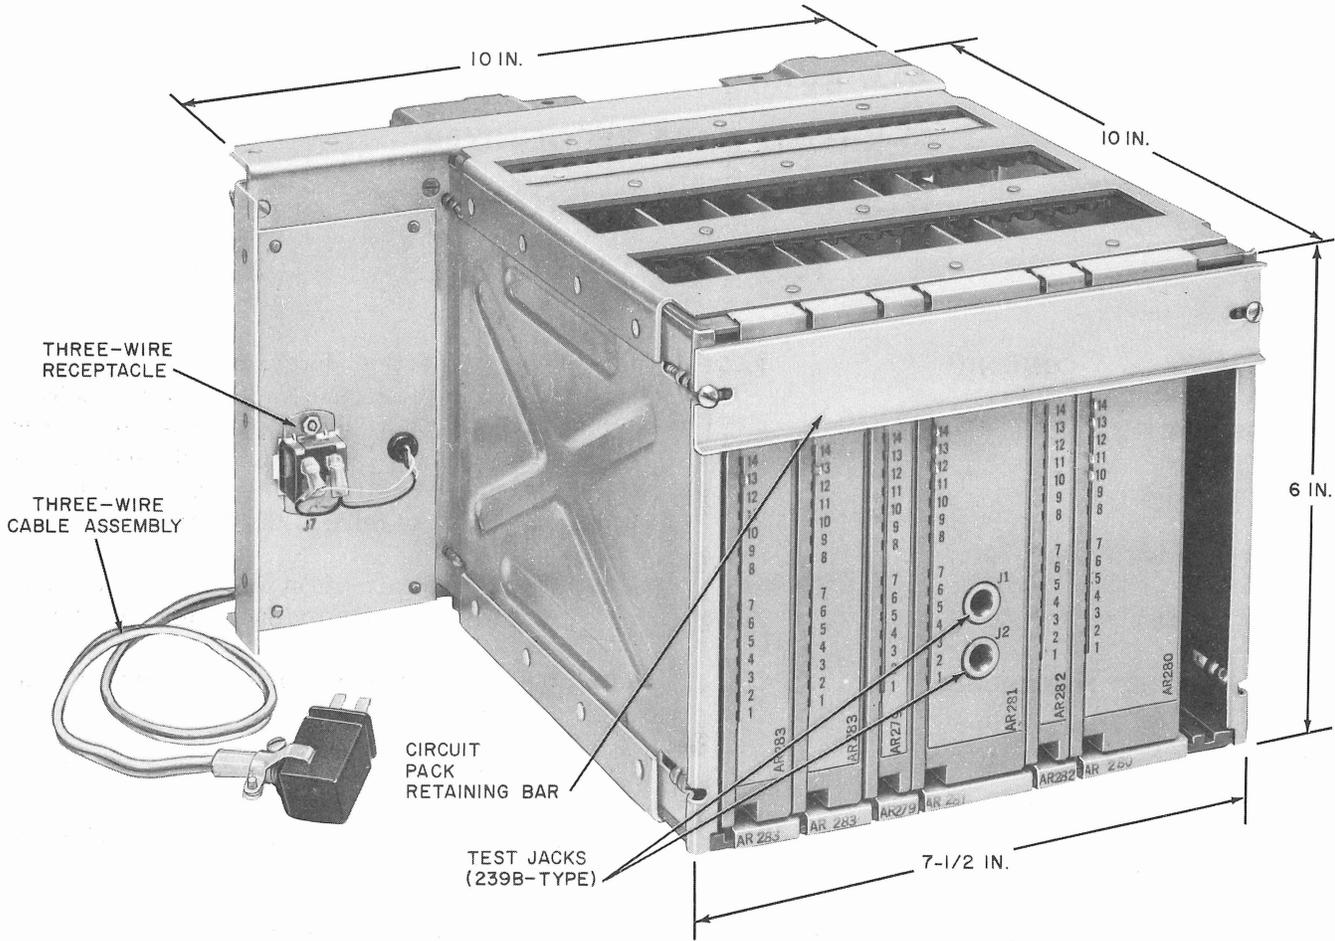
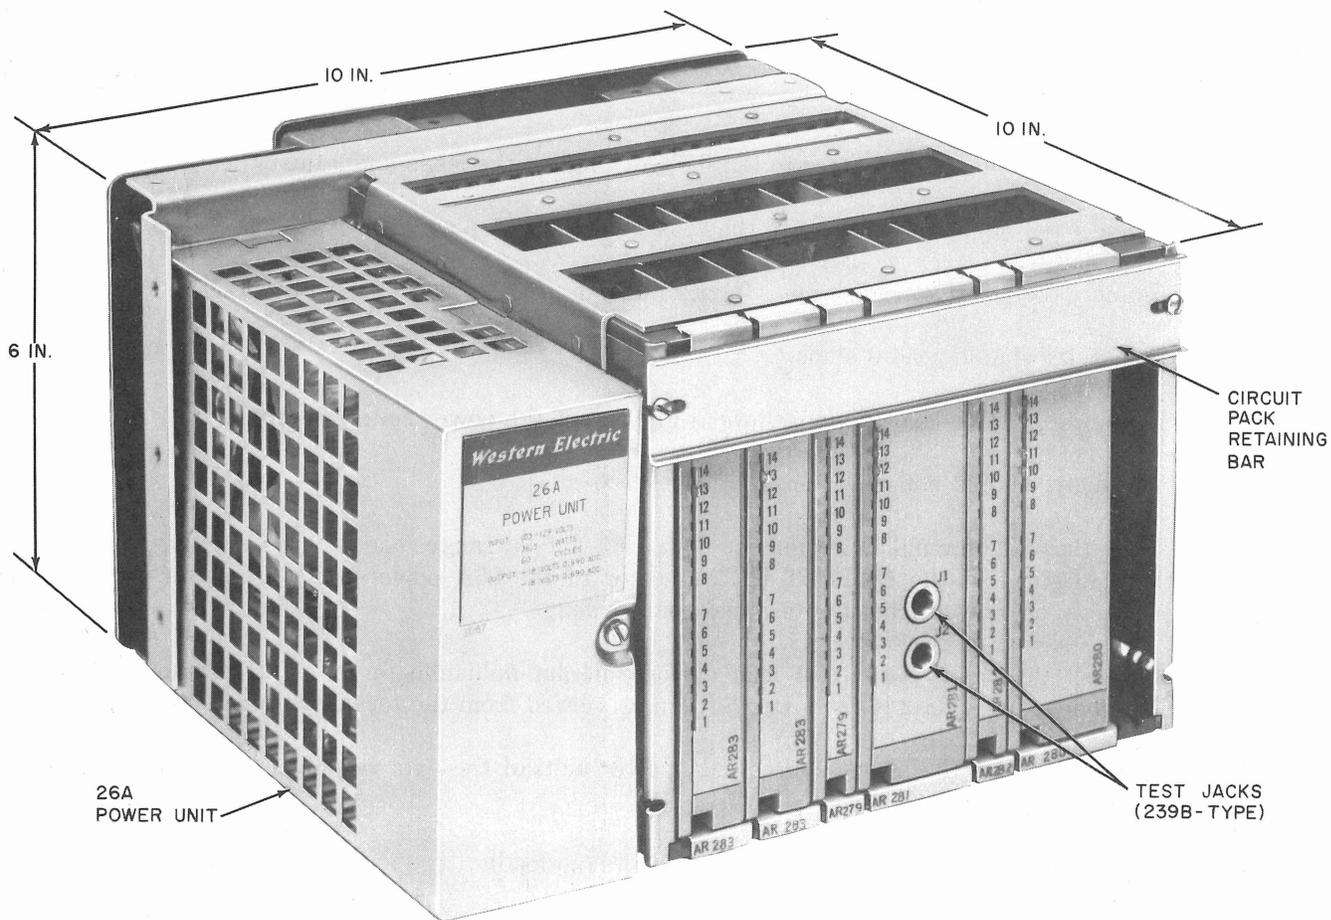

Fig. 1—Data Auxiliary Set 824A1, Front View
Fig. 2—Data Auxiliary Set 824A2, Front View
1.01 This section contains test procedures for Data Auxiliary Set (DAS) 824A-type. (DAS 824A1 is shown in Fig. 1, and DAS 824A2 is shown in Fig. 2.)